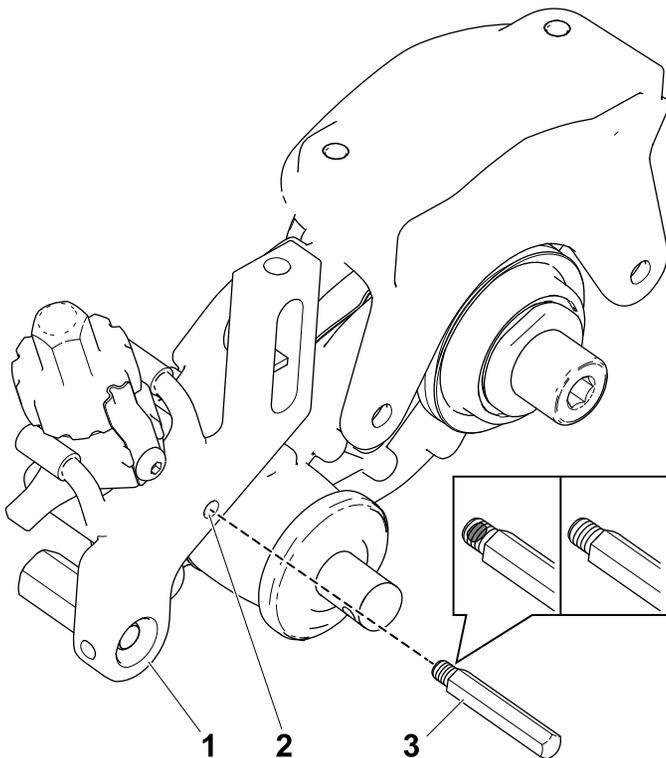

Figure 20
- Secure the groomer pin to the height-of-cut arm (Figure 20).